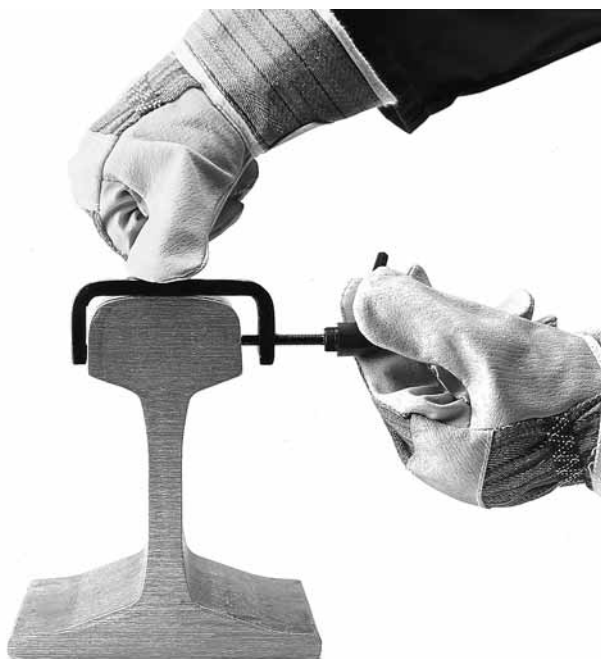

FIG. 23 – ASSEMBLY OF MRF CLAMP
9.2.2) Fit the **MRF** clamp on the head of the rail, keeping it in contact with the rail head at the reference point of the drilling centres. Lock it in position with the lever. The lever is provided with a return pushbutton for moving in any direction after locking. (See Fig. 23)